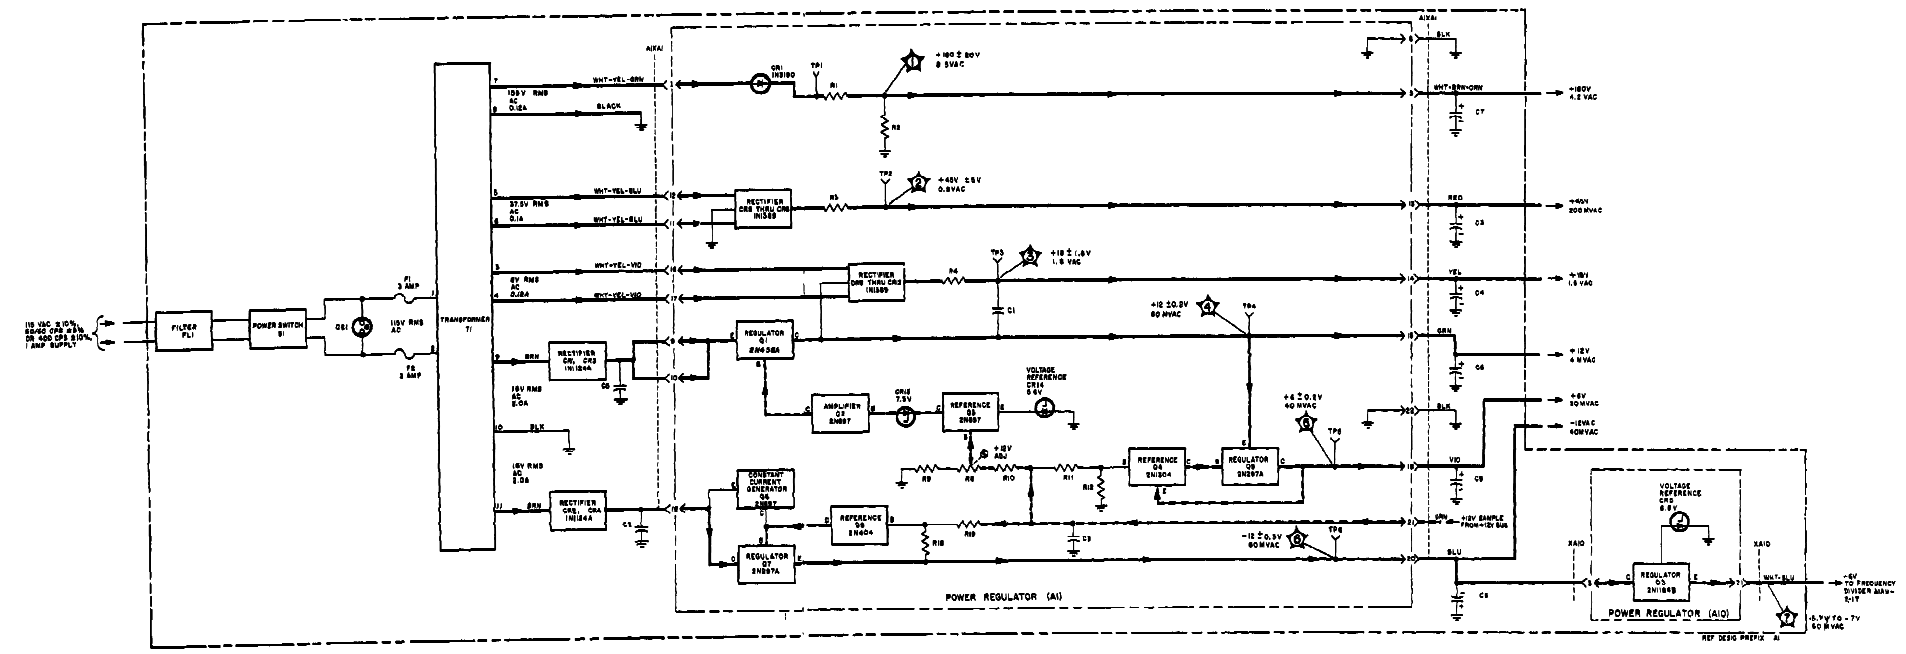

Figure 4-30. Power Supply, Functional and Servicing Block Diagram
a. POWER SUPPLY FUNCTIONAL DESCRIPTION. - The power supply functional section consists of seven dc supplies. Five of these supplies (+18-volt, +12-volt, +6-volt, -6-volt, and -12-volt) are regulated and two (+180-volt and +45-volt) are unregulated. The majority of the power supply circuits is constructed on printed circuit board A1A1. The power transformer, four rectifier diodes, and eight filter capacitors are mounted on the main chassis. The regulator for the -6-volt supply is constructed on part of printed circuit board A1A10. Figure 4-30 shows the functional relationship of all circuits in the power supply.
c. USEFUL ILLUSTRATIONS. - Illustrations useful in maintaining this functional section are: figures 4-30, 5-39, 5-46, and 5-80.